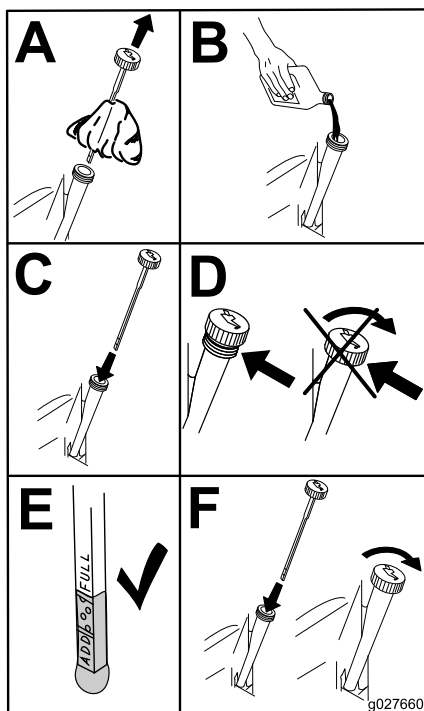

Figure 50
6. Slowly pour approximately 80% of the specified oil into the filler tube and slowly add the additional oil to bring it to the Full mark (Figure 50).